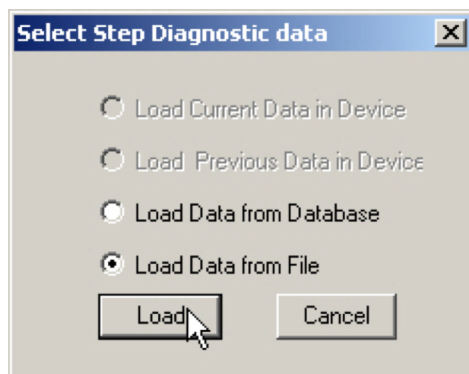

Figure 187 - Selecting Load Data from File
1. Select **Select Additional Curve** from the Step Diagnostic Graph and a dialog appears (Figure 187).